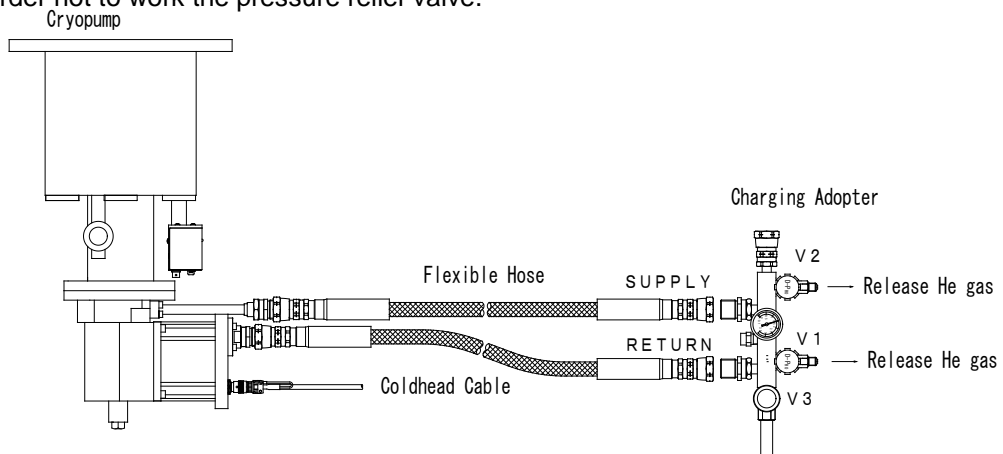

Figure 8-3 Connecting Charging Adaptor
4. Attach the charging adaptor to the disconnected end of the helium SUPPLY and RETURN flexible hoses. (See Figure 8-3)